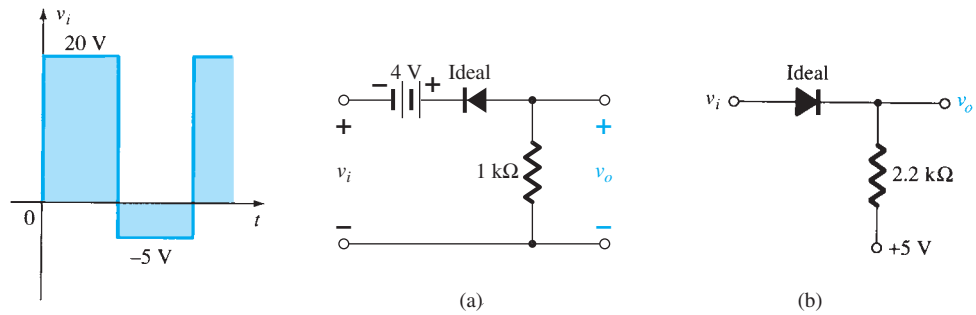

FIG. 2.178
*34. Determine v_o for each network of Fig. 2.178 for the input shown.